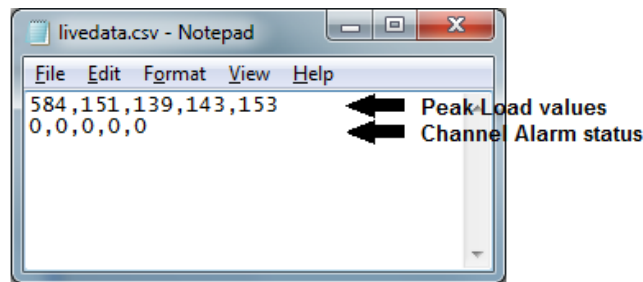

Figure 2-31: livedata.csv File
- The "livedata.csv" file contains the most current peak load values for each channel as well as their corresponding alarm status. A sample file is shown below in Figure 2-31.